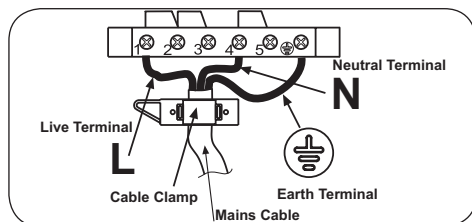
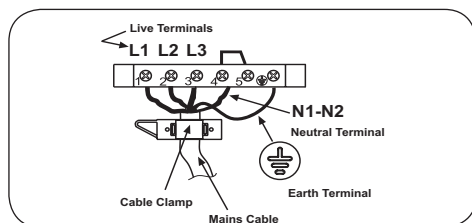

fig.7
fig.8
- Move the connecting plates in the terminal board fig.7, following the diagram in fig. 8.